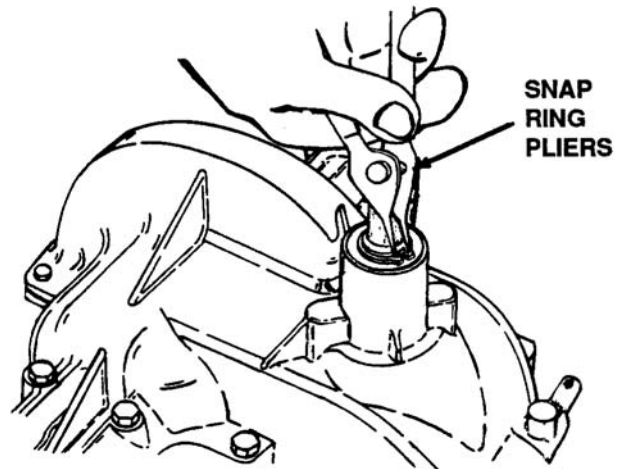

Figure 6-10. Removing Snap Ring
6. Remove the snap ring from input shaft using a pair of snap ring pliers. See Figure 6-10.